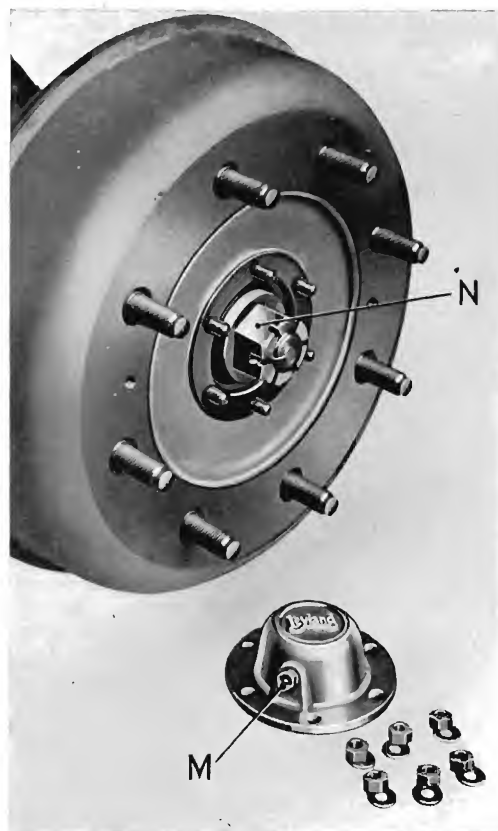

Fig. 1.
To adjust the bearings remove the hub caps as shown in Fig. 1. The nut (N) has six slots and the stub axle two holes at right angles so that there are twelve positions for locking the nut with the split pin. When re-assembling or adjusting screw up the nut (N) until the bearings are just tight, then slack back the nut till the nearest slot and hole are in line to insert the split pin.
The brake drums and shoes can be removed without disturbing the hubs (see "Brakes"). To remove the hub take off the hub cap and unscrew the nut (N), Fig. 1. The hub can then be drawn off bringing with it the outer roller bearing.